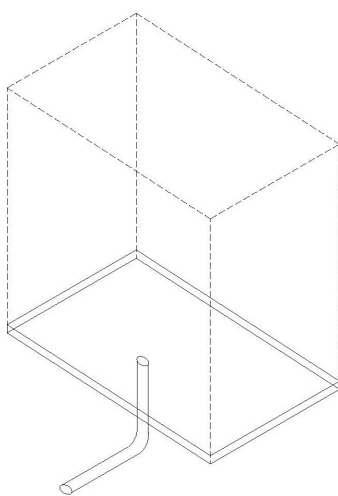

Figure 113. Pad Drain for Freestanding Switchboard (STD-D-6266)
- When water intrusion can reasonably be expected, the customer must provide a means to prevent water from accumulating in the pull and termination sections. This can be done by providing a water collection system—a concrete well, for example—under the pull and termination sections along with a gravity drain or sump pump to remove any standing water. Figure 113 shows a pad drain for freestanding switchboard.